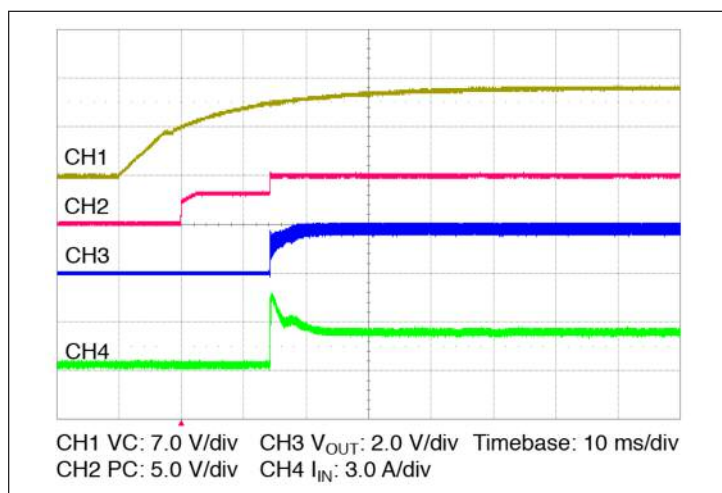

Figure 11 — Start up from application of VC;
- **Stand-alone operation (VC applied after V_{IN}):** In this case the VTM output will begin to rise upon the application of the VC voltage (See Figure 11). The Adaptive Soft Start Circuit (See Section 11) may vary the output rate of rise in order to limit the inrush current to its maximum level. When starting into high capacitance, or a short, the output current will be limited for a maximum of 120 µsec. After this period, the Adaptive Soft Start Circuit will time out and the VTM module may shut down. No restart will be attempted until VC is re-applied or PC is toggled. The maximum output capacitance is limited to 27000 µF in this mode of operation to ensure a successful start.